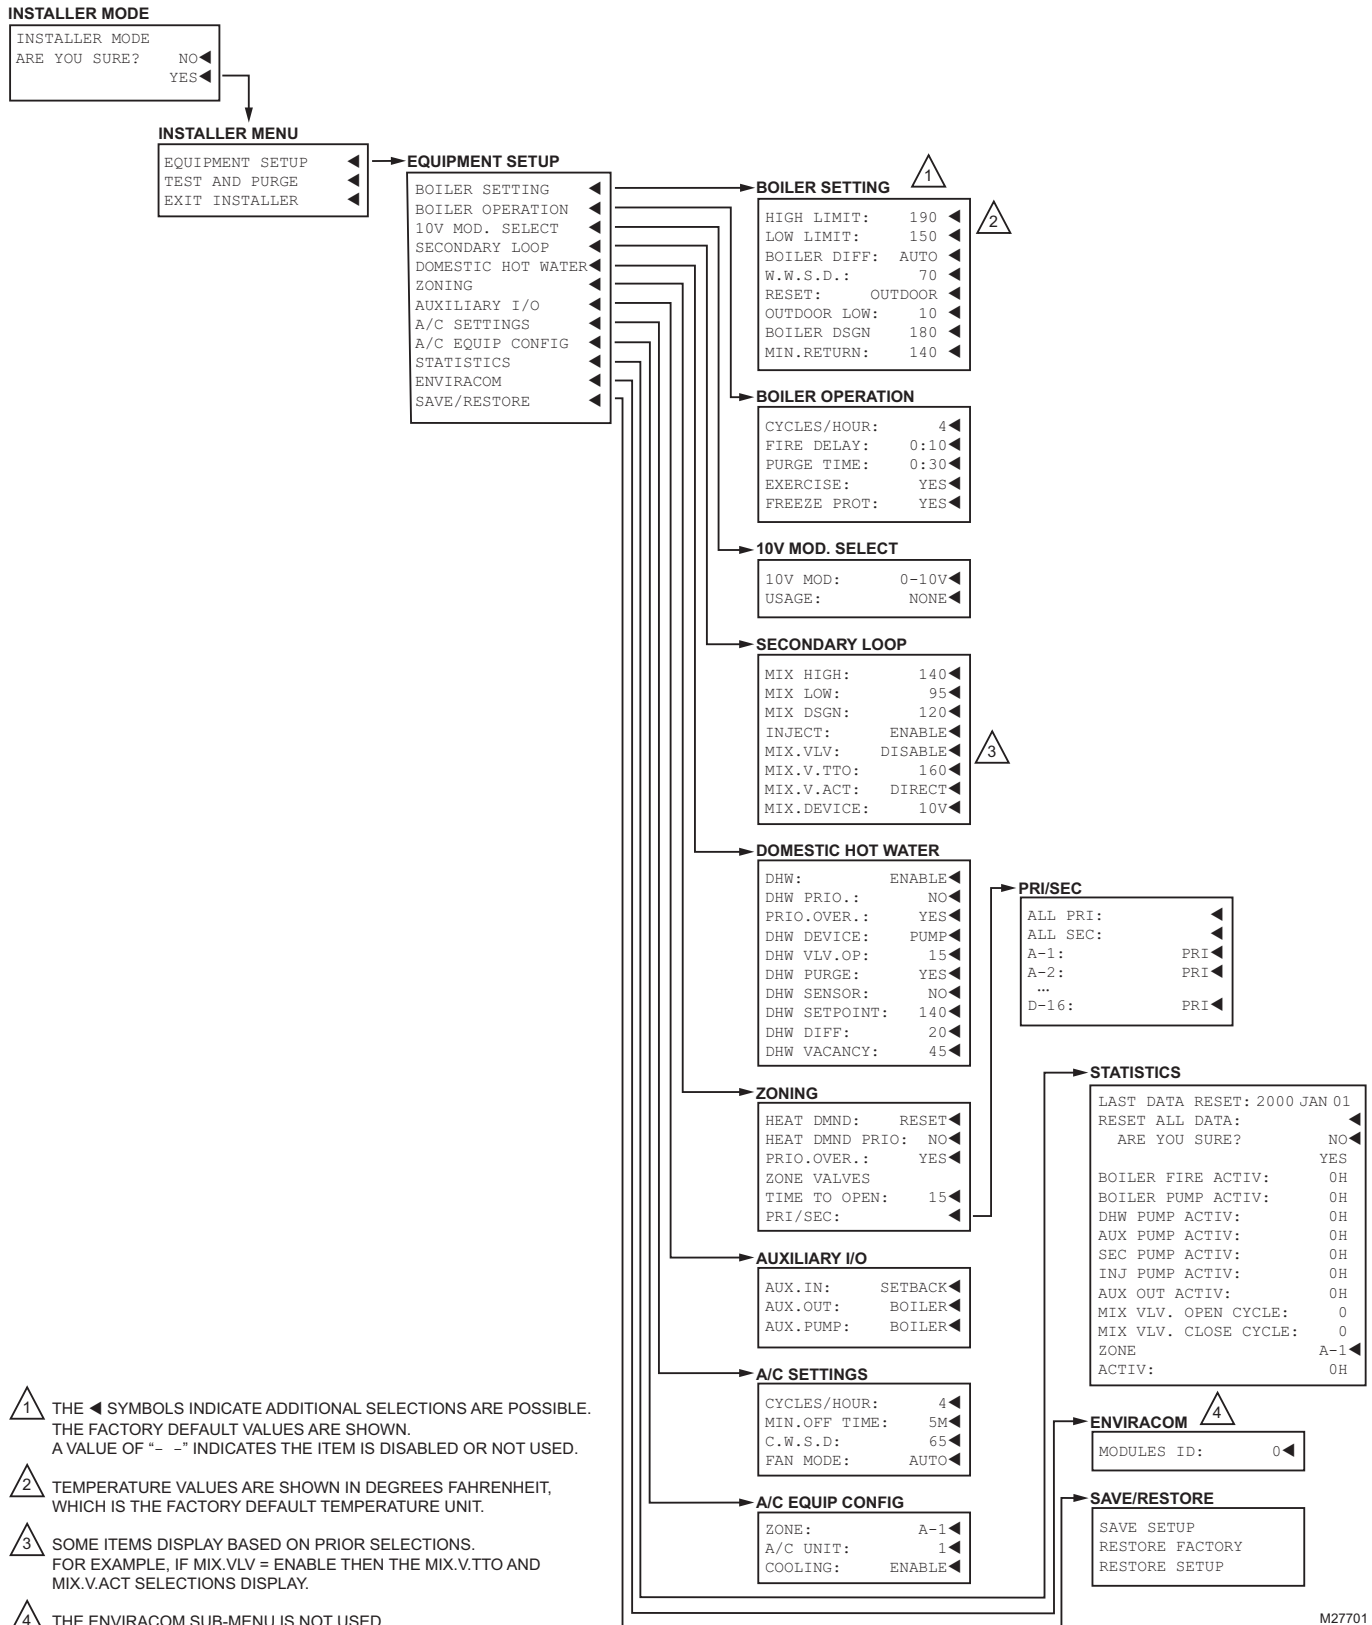
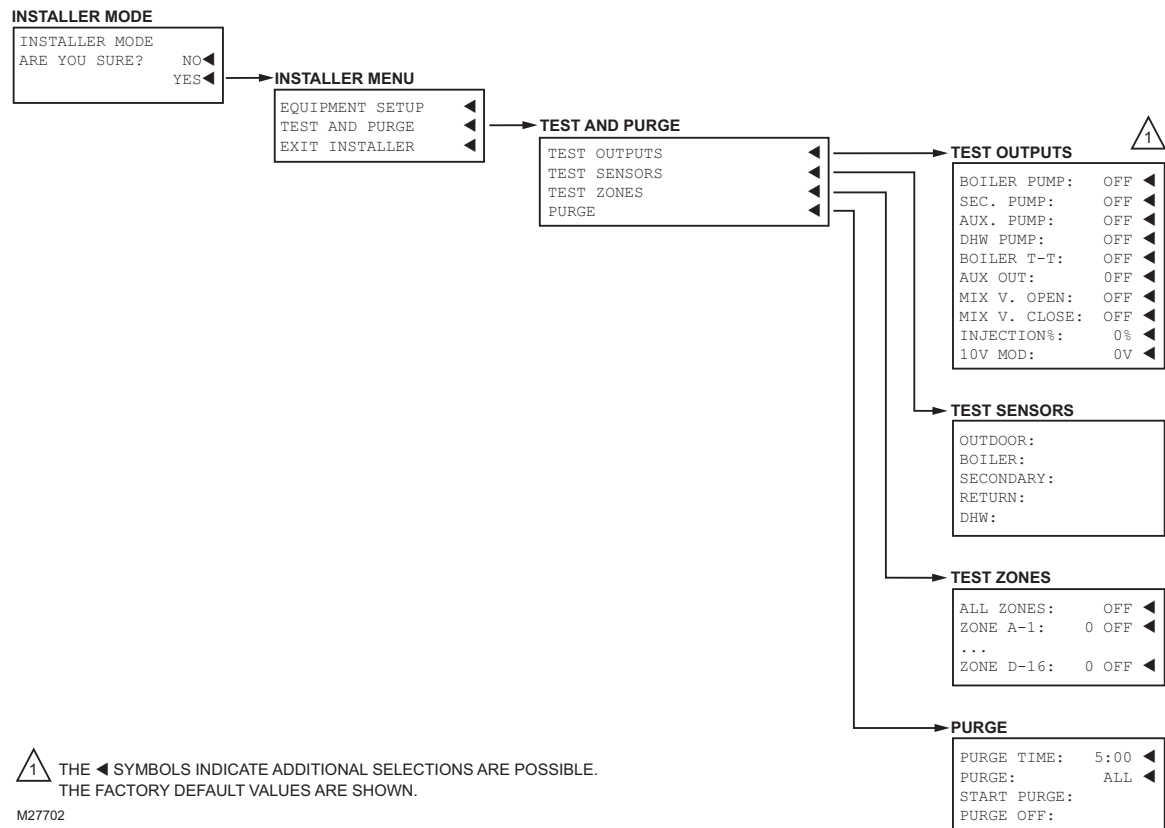

Fig. 25. Installer Menu Structure. – Equipment Setup.
Fig. 26. Installer Menu Structure. – Test and Purge.
- Installer Menu (see Fig. 25 on page 41)
To display the Installer Menu, go to the Home Page, press and hold the OK button for 3 seconds until the message **INSTALLER MODE – ARE YOU SURE?** displays. Select YES and press the OK button. Fig. 25 and Fig. 26 illustrate all possible Installer Menu selections.